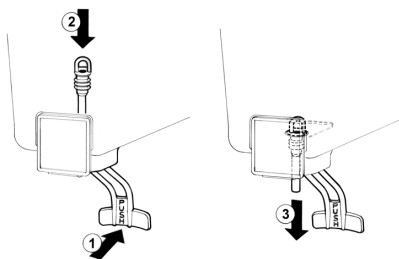

figure 5
**2 Pinch tube faucet:** push the dispensing handle (1) and insert the pinch tube into its vertical seat in the bowl bottom(2). Lightly pull the pinch tube end downwards til it is well arranged (3) (see figure 5).